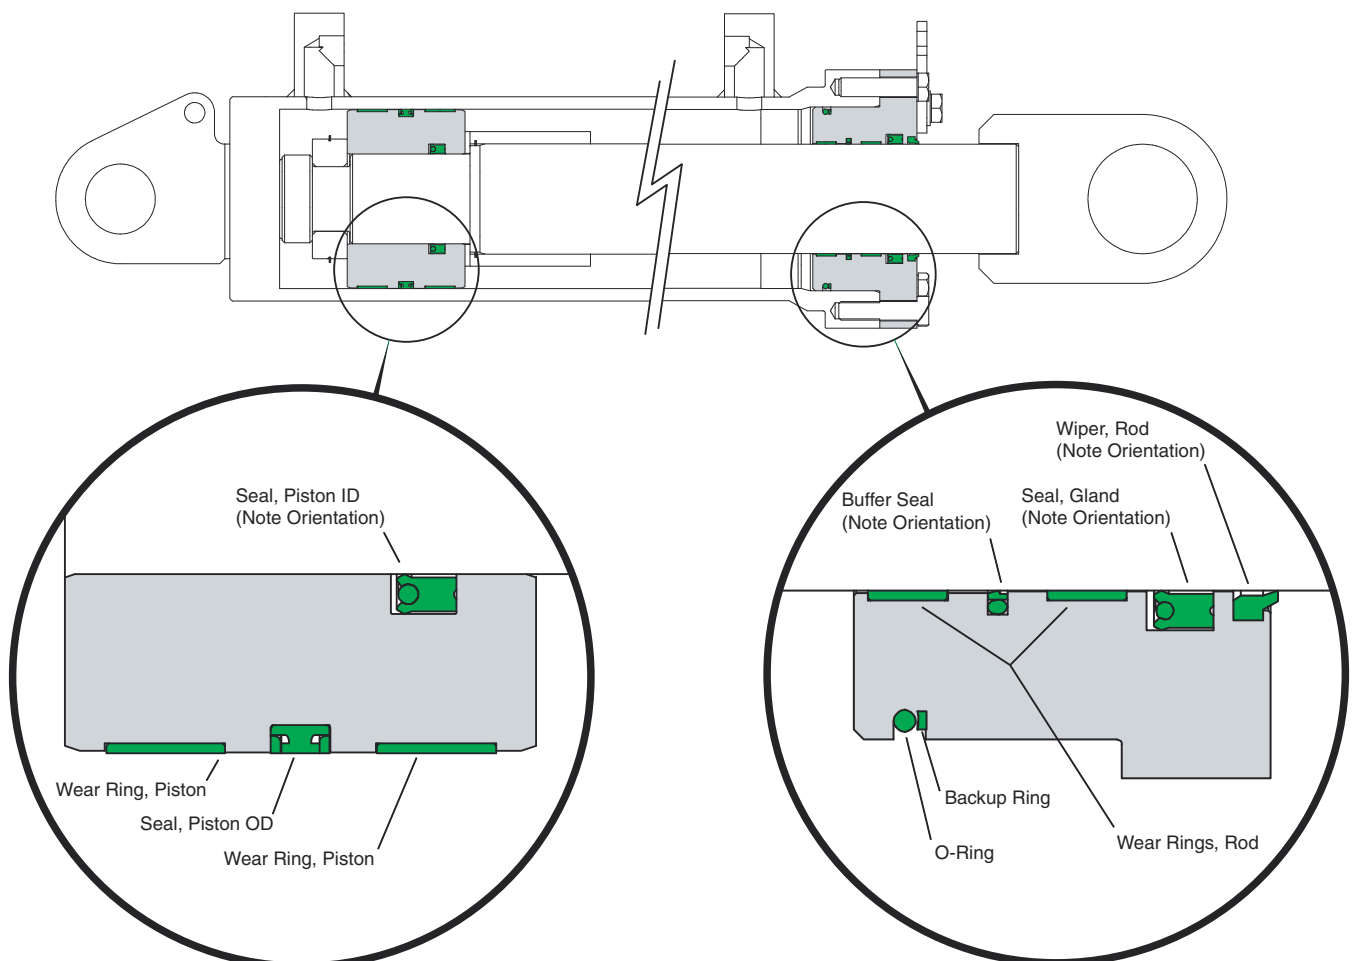

Figure 7 Seal Orientations (Typical, L60 Hoist Cylinder Shown)
4. See Figure 7 for seal orientation.